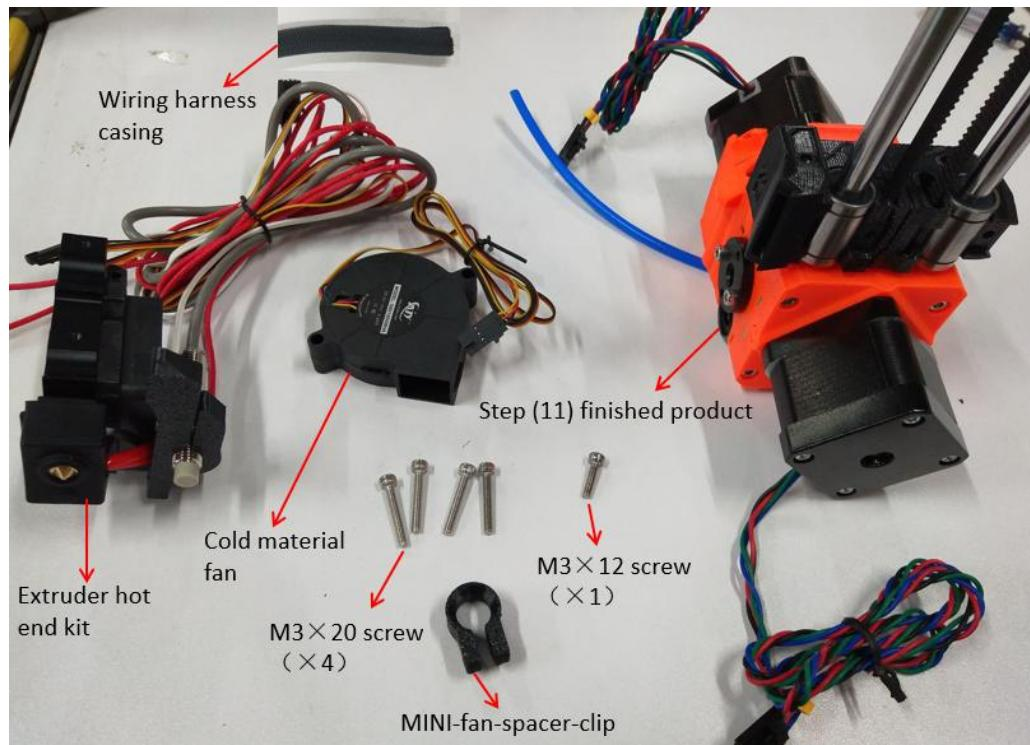

Figure 2.13.1
**Step 2-13-1:** As shown in Figure 2.13.1, prepare the materials and check whether the quantity of materials is correct, and prepare for the next installation.